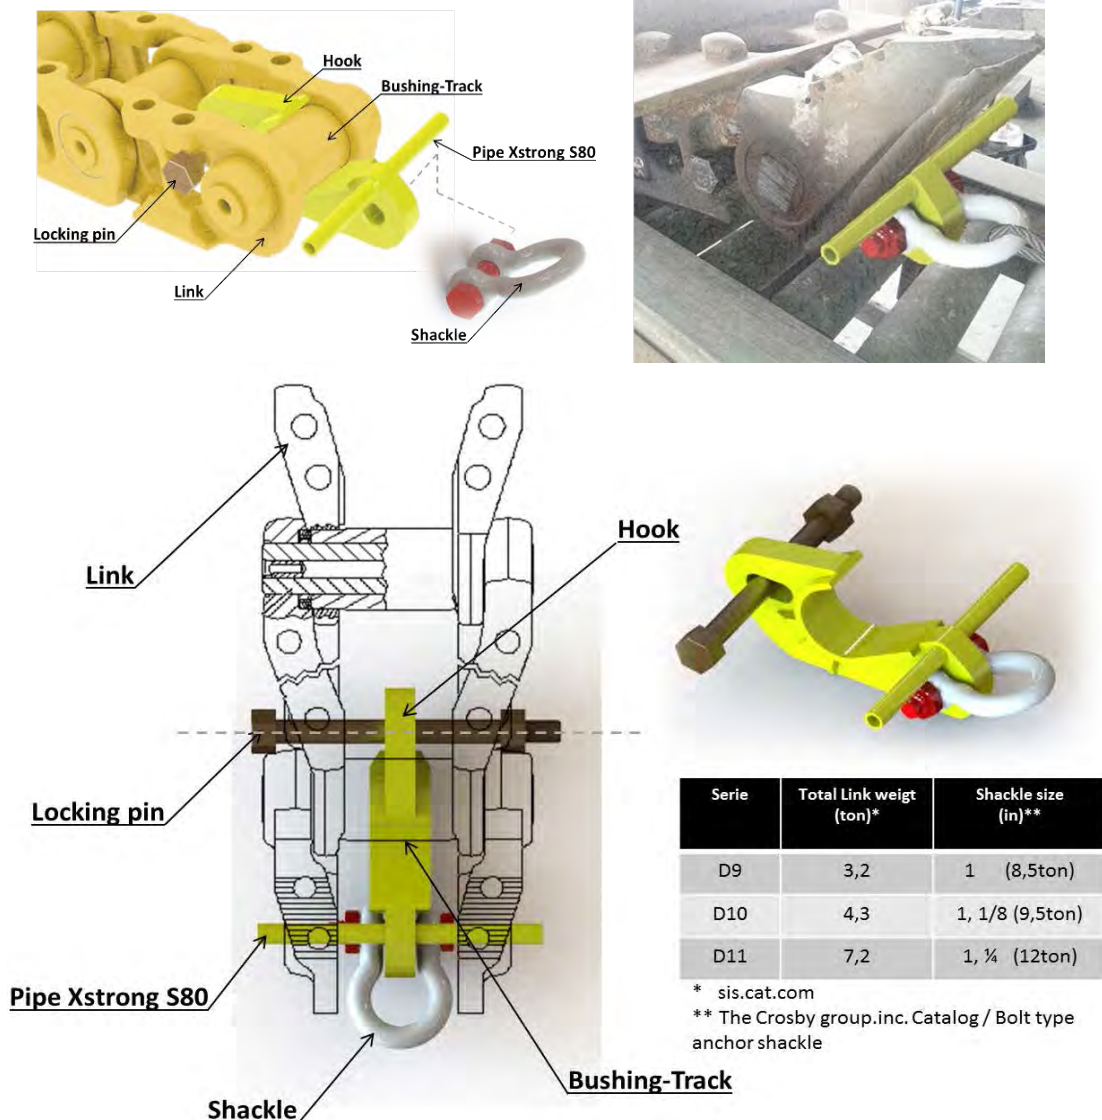

Fig. 2. Tool installation architecture.
- Make the tool as designed (see Fig. 2 and 4)
- Install the tool according to Fig. 2 by following these steps (see Fig. 2):
- Initially install the shackle to be used according to the series of the track to be mounted (see table in Figure 2). It should be noted that for safety reasons we have selected a anchor type shackle with a pin having a nominal capacity of 1.5 times of the total load value, and that its opening is enough to fit in over the sheet thickness of the tool body. Once the shackle is installed, attach the tool to the bushing of the links connecting the end of the track, making sure the loose teeth of the ends are resting above the $\frac{3}{4}$ inch tube of the tool.
- Materials and required components (see Figure 2)